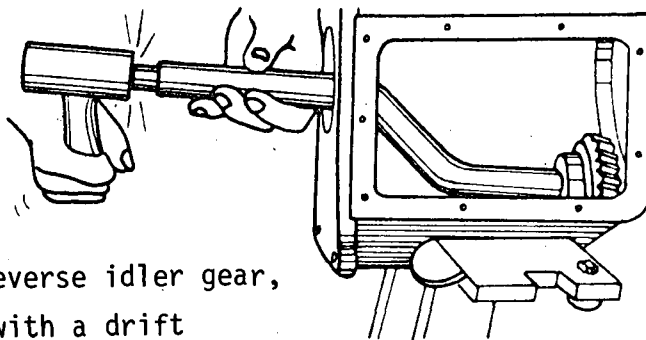

Fig. 4
- b) Take out the reverse idler gear, tapping its shaft with a drift punch (fig. 4).